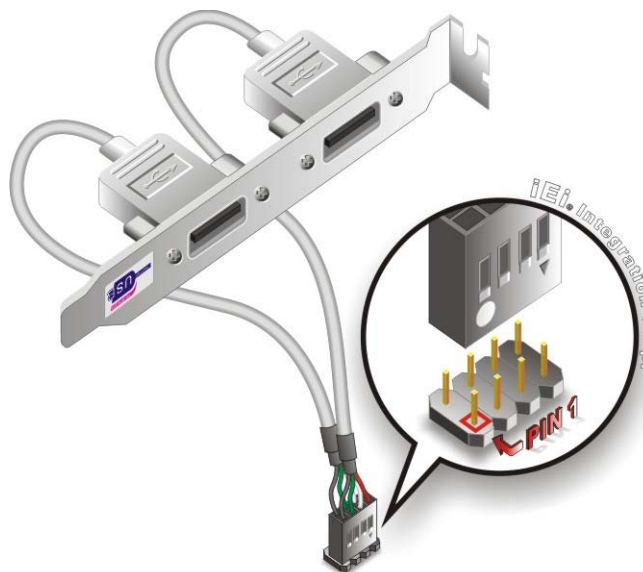

Figure 4-10: Dual USB Cable Connection
Step 3: Insert the cable connectors Once the cable connectors are properly aligned with the USB connectors on the KINO-CV-D25501/N26001, connect the cable connectors to the on-board connectors. See Figure 4-10.